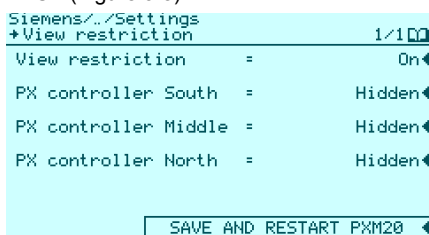

Figure 3-8 **View restriction = On**
2. Set **View restriction = On** (Figure 3-8)